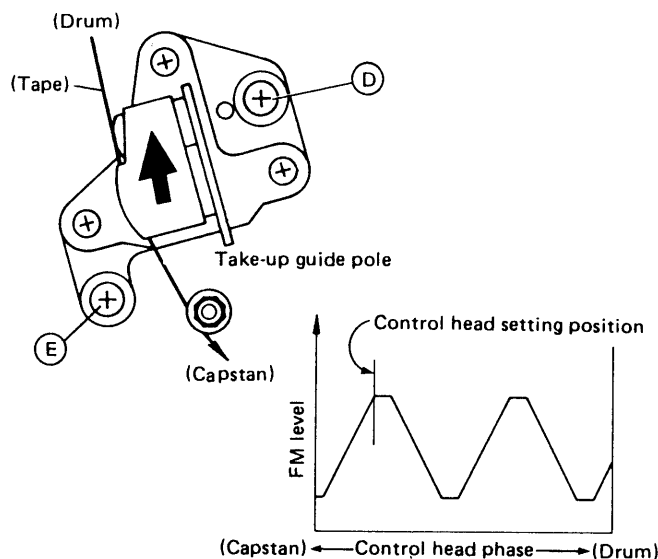

Fig. 2-38 Control head phase adjustment
9. Set the audio/control head position tool (PUJ47351-2) over the screw (D) and insert the pin of the tool into the hole at the side of the screw.
10. Slowly turn the tool and slide the A/C head assembly in the direction of the arrow as shown in Fig. 2-38.
11. Set the A/C head assembly to the position where first maximum FM level is obtained. Tighten two screws (D) and (E).